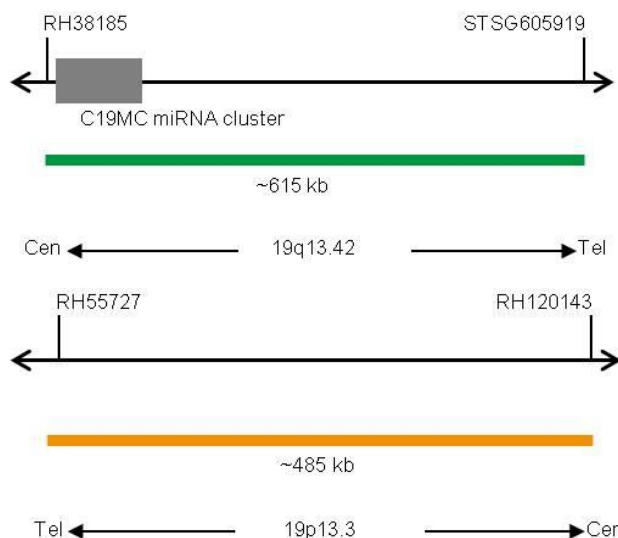

Fig. 1: Top: SPEC C19MC Probe map; Bottom: 19p13 Probe map (not to scale)
- ZyGreen (excitation 503 nm/emission 528 nm) labeled polynucleotides (~10.0 ng/μl), which target sequences mapping in 19q13.42\* (chr19:54,156,239-54,768,983) harboring the C19MC locus (see Fig. 1).
- ZyOrange (excitation 547 nm/emission 572 nm) labeled polynucleotides (~4.5 ng/μl), which target sequences mapping in 19p13.3\* (chr19:658,555-1,144,465) (see Fig. 1).